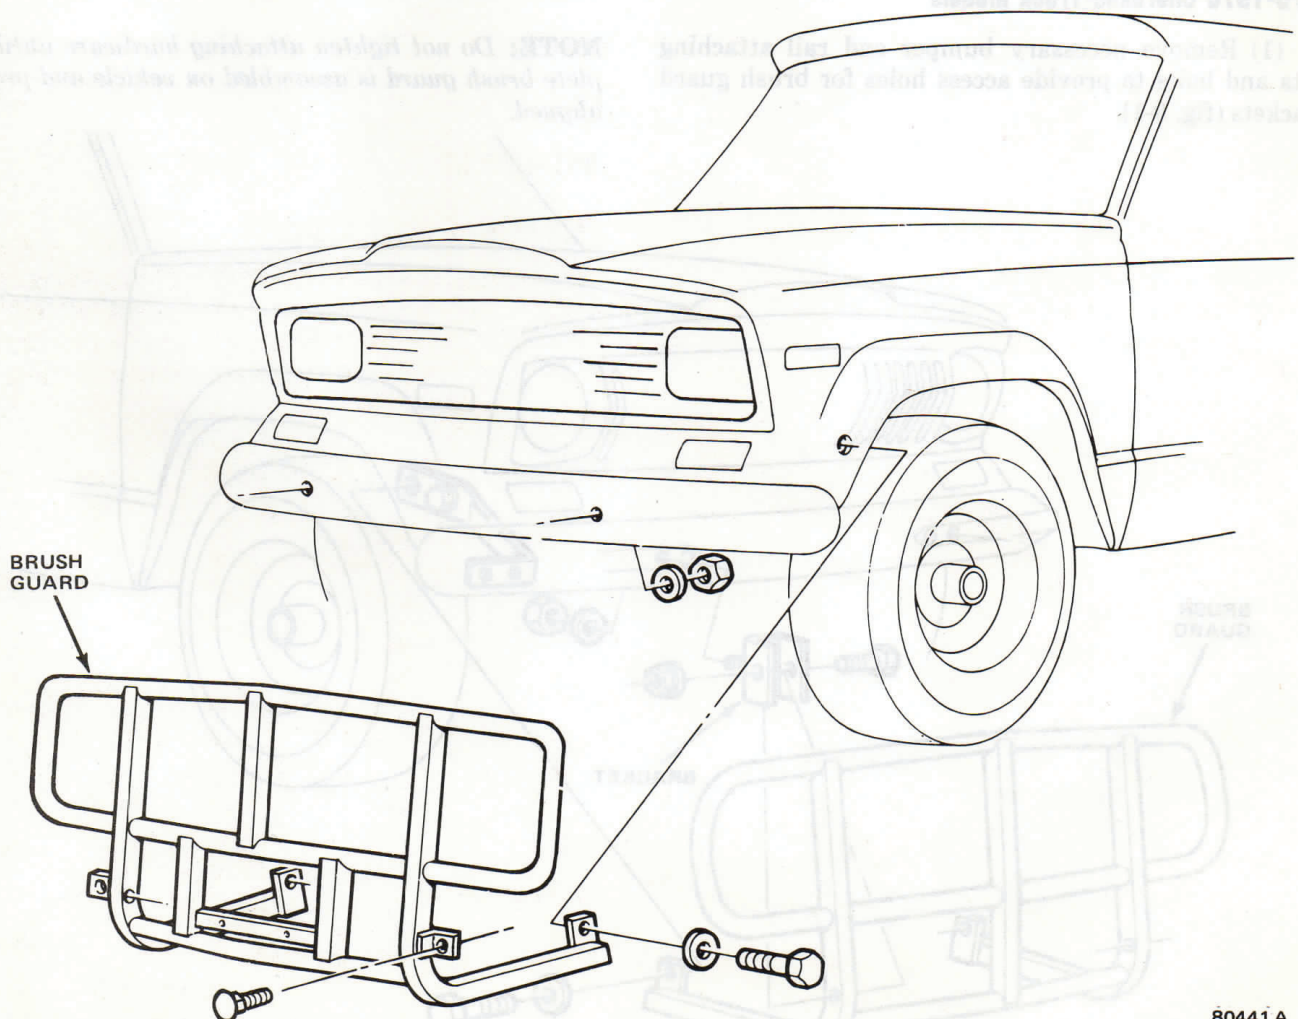

Fig. 9-2 Brush Guard Installation—1979 Cherokee-Truck Models
(1) Remove license plate bracket.
(2) Remove and install upper front spring shackle bolts so nuts are on inboard side of spring. (This is necessary to provide clearance for brush guard installation.)
(3) Remove bumper bolt from each side of vehicle centerline (fig. 9-2).